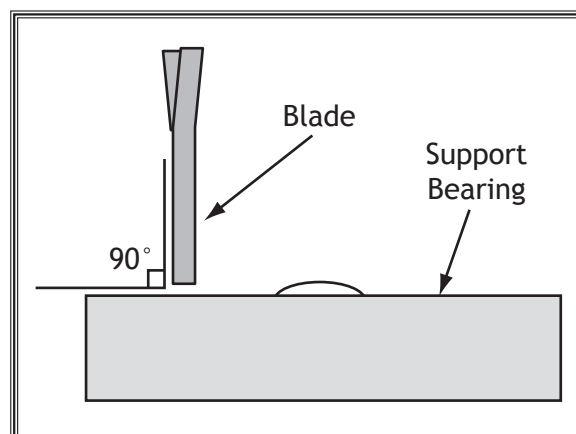

Figure 28. Support bearing perpendicular to the blade.
5. Look at the face of the support bearing and rotate the blade guide assembly side-to-side, until the blade is perpendicular with the face of the support bearing, as illustrated in **Figure 28**.